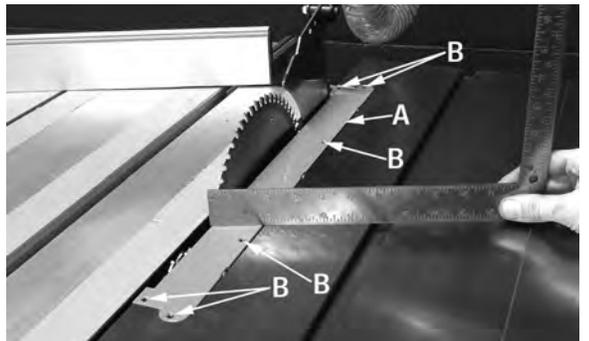

FIGURE 53
1. The table insert (A) Fig.53 must be set flush with the table top. Lower blades below the table surface and then place a straight edge over the table insert as shown and verify flushness. If an adjustment is needed, adjust the 6 set screws (B) in or out until the top of the table insert is flush with the surface of the main table.